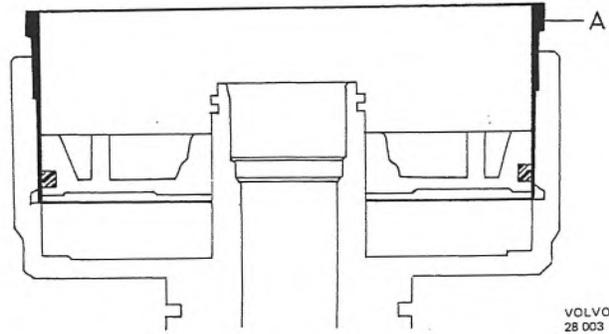

Fig. 4-100. Installing piston for rear clutch
11. Fit the sealing rings for the piston. Use fitting ring 5000 and fit the piston in the clutch case, see Fig. 4-100.